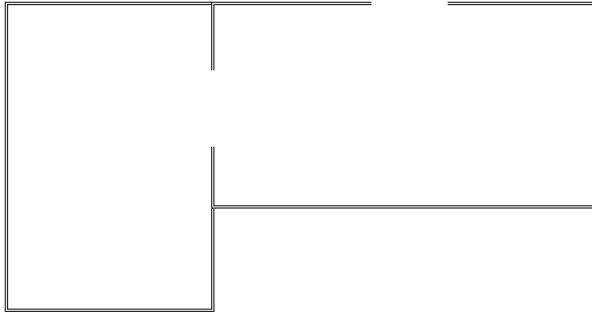

Figure 16-47: The edited multilines
9. Save your drawing. It should look like Figure 16-47.